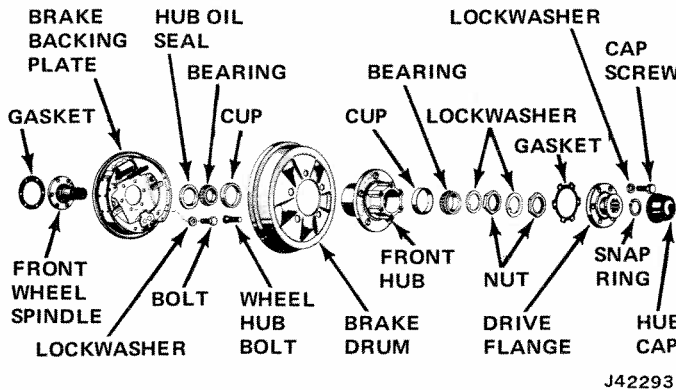

Fig. 9-58 Front Wheel Attaching Parts, CJ Models
(1) Remove hub cap, snap ring, capscrews, and washers that attach driving flange to the hub (fig. 9-58).
(2) Using Front Axle Shaft Drive Flange Puller W-163, pull driving flange.
(3) Bend lip of lockwasher so that locknut and lockwasher may be removed.
(4) Using Tool W-144 or DD-1241, rotate wheel and tighten adjustment nut until wheel binds.
(5) Back off adjusting nut about one-sixth turn making sure that wheel rotates freely without side-wise shake.
(6) Replace lockwasher and locknut, bend lockwasher lip.
(7) Check adjustment.
(8) Assemble driving flange and hub cap. Make certain gasket is properly installed between hub and flange.